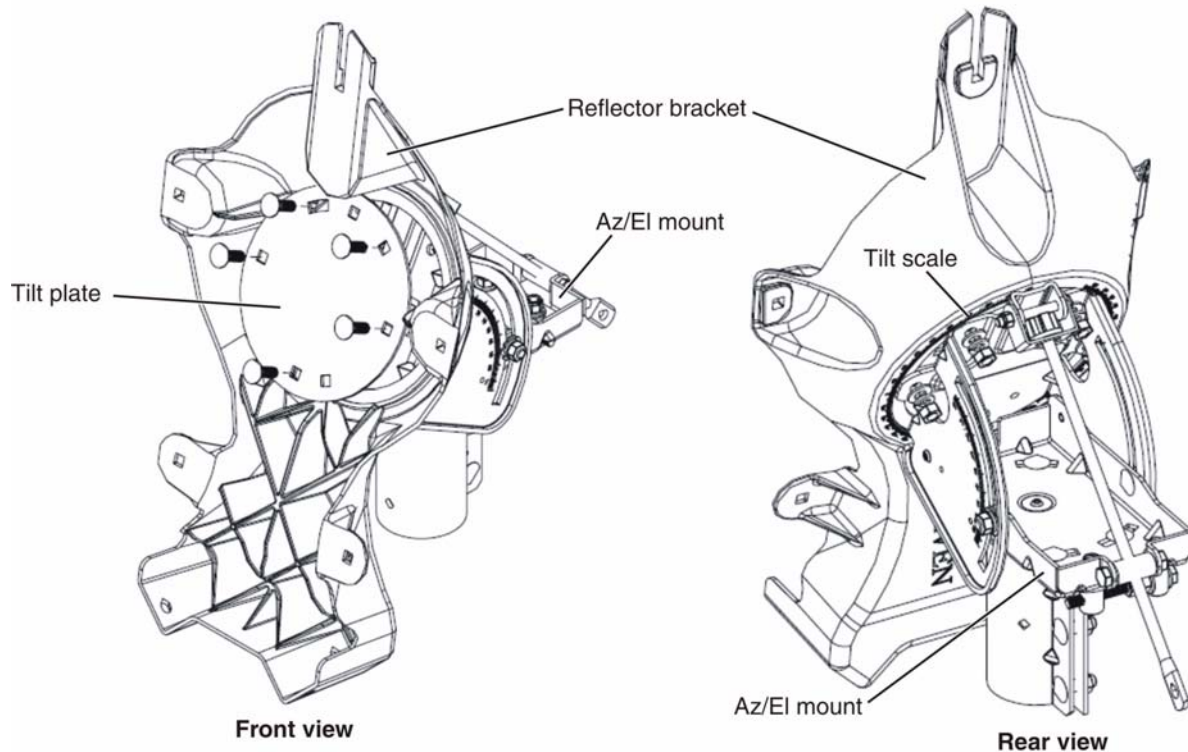

Figure 11: Attaching the reflector bracket
| 5/16-inch x 1-inch carriage bolts                  | 5        | Reflector bracket and tilt plate and to Az/EI mount assembly | Figure 11 on page 19                      |
1. Hold the reflector bracket in position over the Az/EI mount so that the tilt scale on the outside of the reflector bracket faces the mount, as shown in Figure 11.
4. Secure the assembly by placing a flat washer, lock washer, and ½-inch nut on each carriage bolt, as shown in Figure 11 on page 19. Tighten each nut to 8 ft-lb using a torque wrench. Once connected, the reflector bracket should rotate freely between the Az/EI mount and the tilt plate.